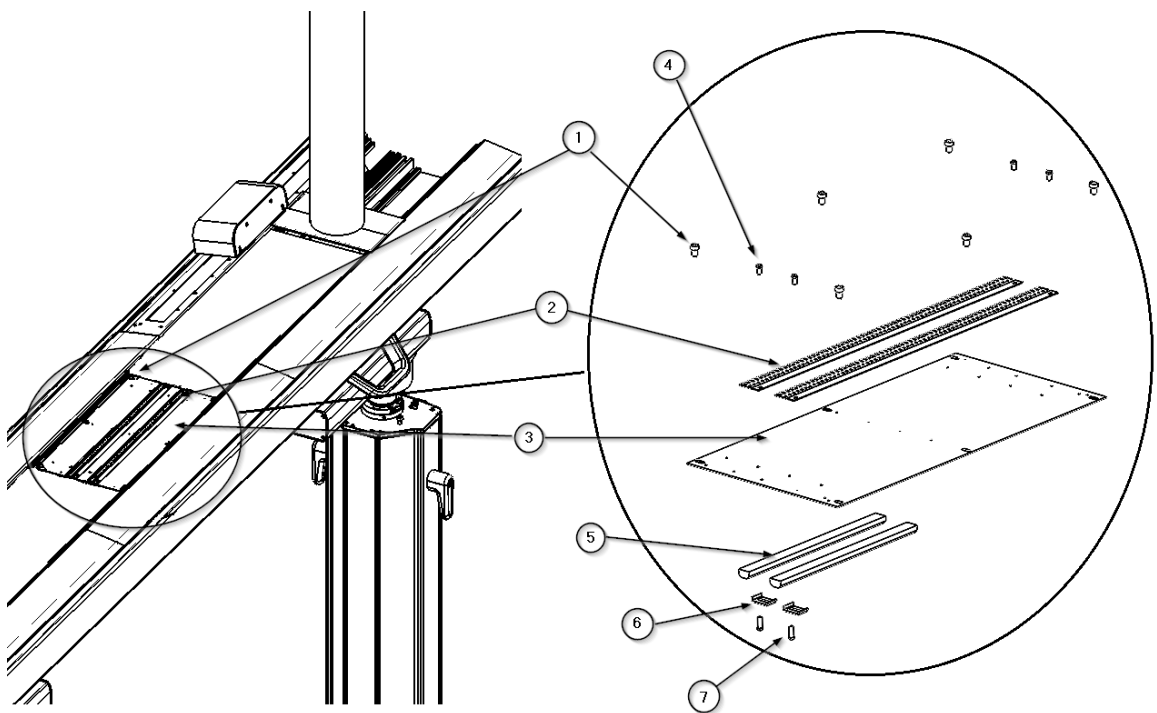

Fig. 8 Replacing indirect light
- Disconnect the power supply of the controller ② from the terminal strip.
- Unscrew the 2 cylinder screws M6 x 12 ① DIN 912 and release the lighting module. The LED strip ⑤ and its quick connector are visible. See figure 8.